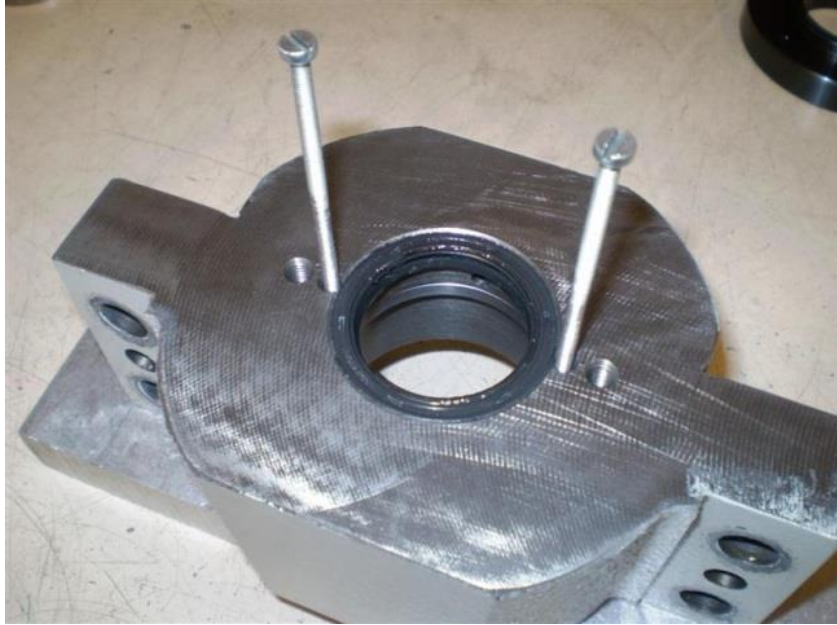

Figure 6.11.1a
5. Simultaneously tighten the screws to push the bearings out of the casting. See figure 6.11.1a